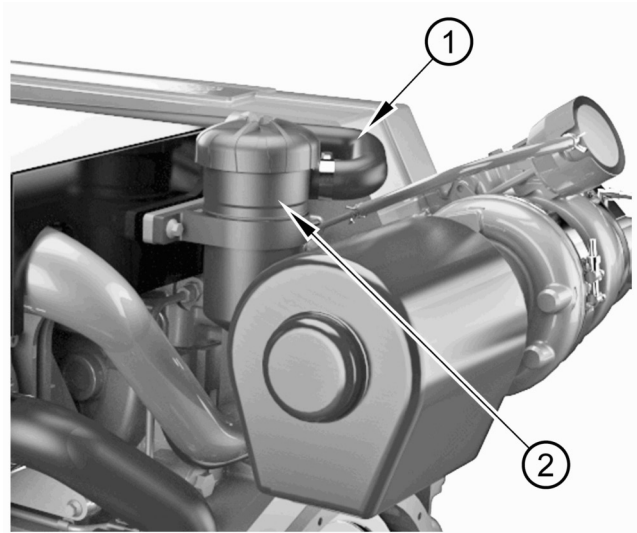

Figure 23
Caution: Do not use excessive force to remove the hose (figure 23 item 1) from the breather outlet pipe.
1. Remove the hose (figure 23 item 1) from the engine breather body (figure 23 item 2).